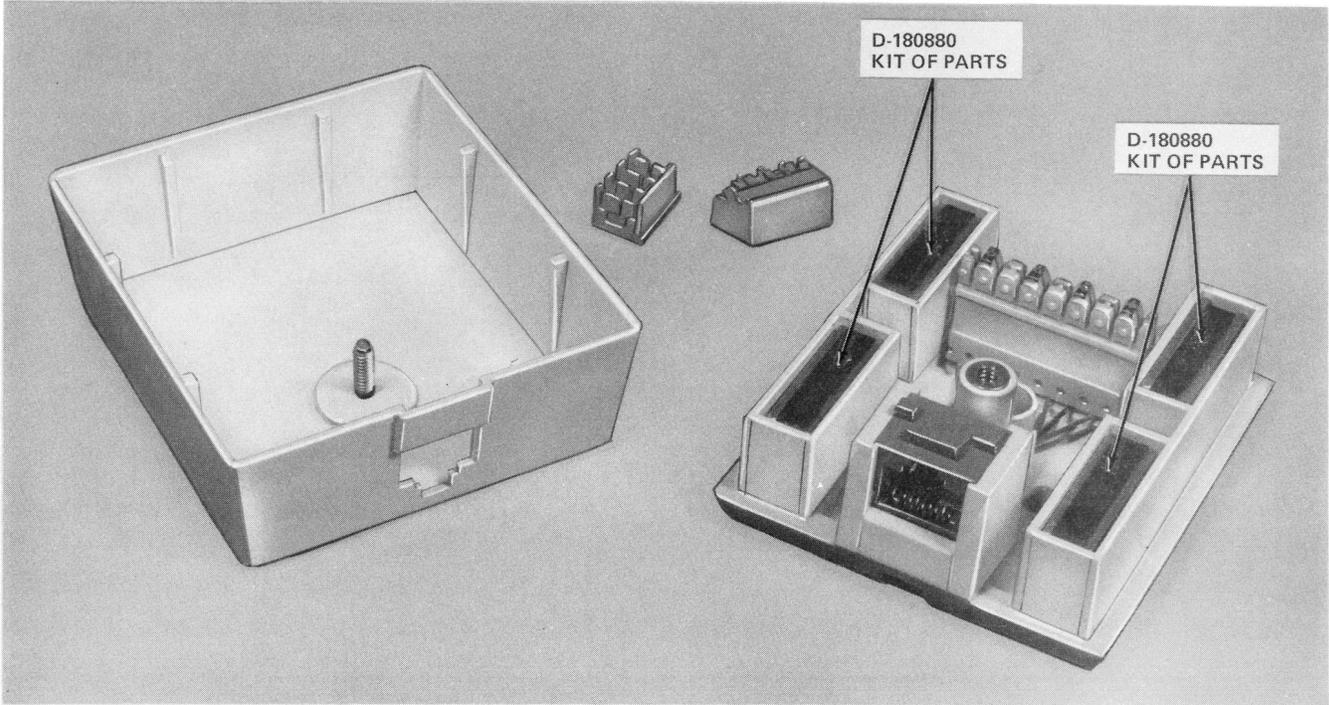

Fig. 9— 103A Connecting Block
2.07 This connecting block (Fig. 9) is used to connect one modular telephone set to the line. It is available in ivory only and consists of a plastic base containing an 8-contact jack, an 8-position quick-connect field, two plastic wire terminating caps (paragraph 1.03), and a screw-attached cover.